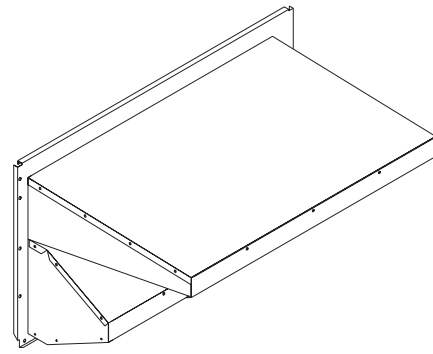

Fig. 30 — Completed Hood Assembly
5. Slide the outdoor-air inlet screens into the screen track on the hood side panels. While holding the screens in place, fasten the screen retainer to the hood using the screws provided. Repeat the process for the barometric exhaust air screen. *Do not attach completed (Fig. 30) hood assembly to unit at this time.*